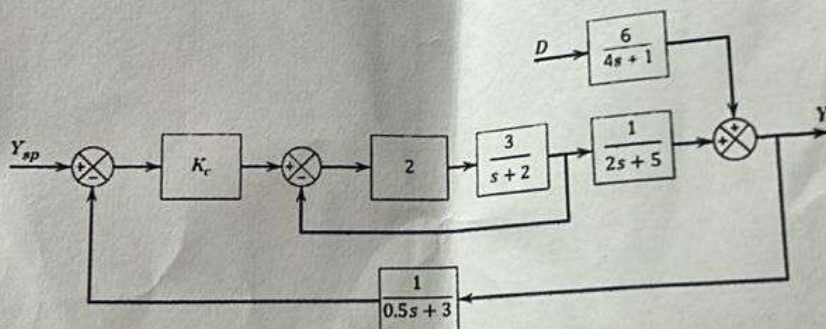

Fig.1 Feedback control system
3. Apply block diagram reduction technique for the feedback control system given in Fig.1. Assuming zero disturbance, find the transfer function and determine the value of K using Routh-Hurwitz's stability criterion.